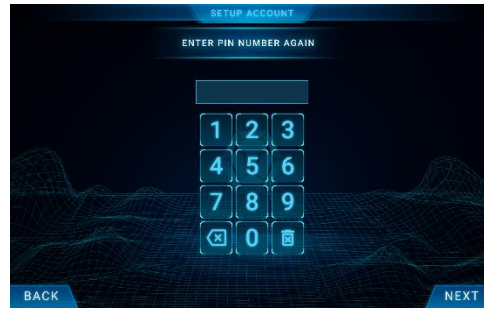

Fig. 10
10. Enter your pin number again (Fig. 10).